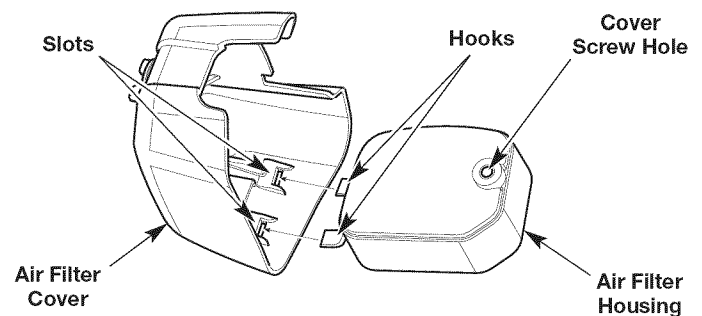

Fig. 17
6. Reinstall the air filter inside the air filter housing (Fig. 17).
7. Insert the hooks on the air filter housing into the slots on the air filter cover (Fig. 17).
8. Swing the air filter cover to the right and align the cover screw with the cover screw hole (Fig. 17). Tighten the cover screw to secure the air filter cover.